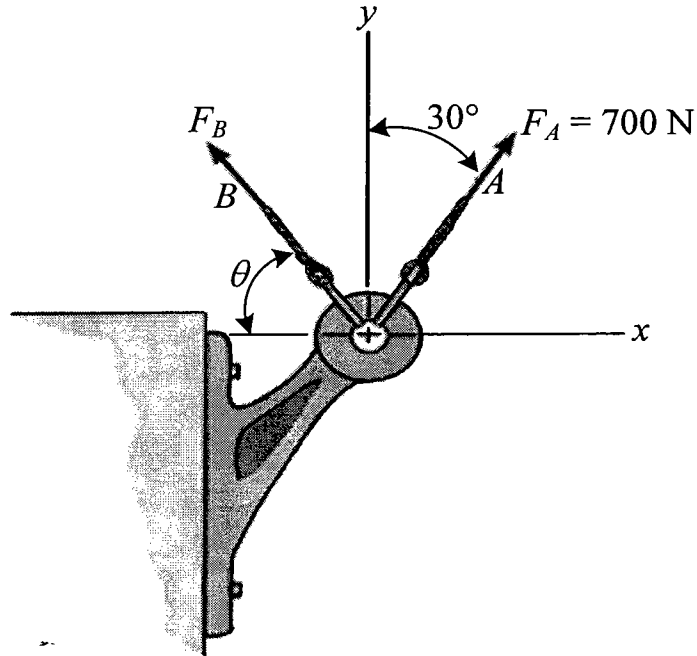

Figure Q1[a]
- Q1. [a] Two forces F_A and F_B are subjected on a bracket as shown in Figure Q1[a]. Determine the magnitude and orientation, measured counterclockwise from the positive y axis, of the resultant force acting on the bracket, if $F_B = 600\text{ N}$ and $\theta = 20^\circ$.